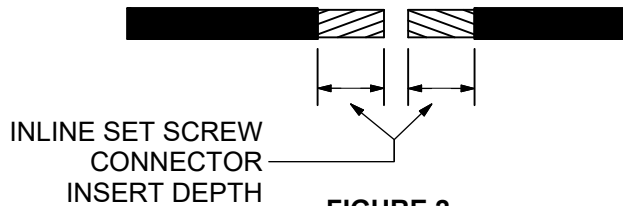

FIGURE 2
2. Check the insert depth of the inline set screw connector. Remove the length of cable insulation on each cable that corresponds to the insert depth of the connector. See Figure 2. Remove surface oxides from the exposed conductors with a wire brush. Coat the cleaned conductors with oxide inhibitor (Stock #31 59 058).